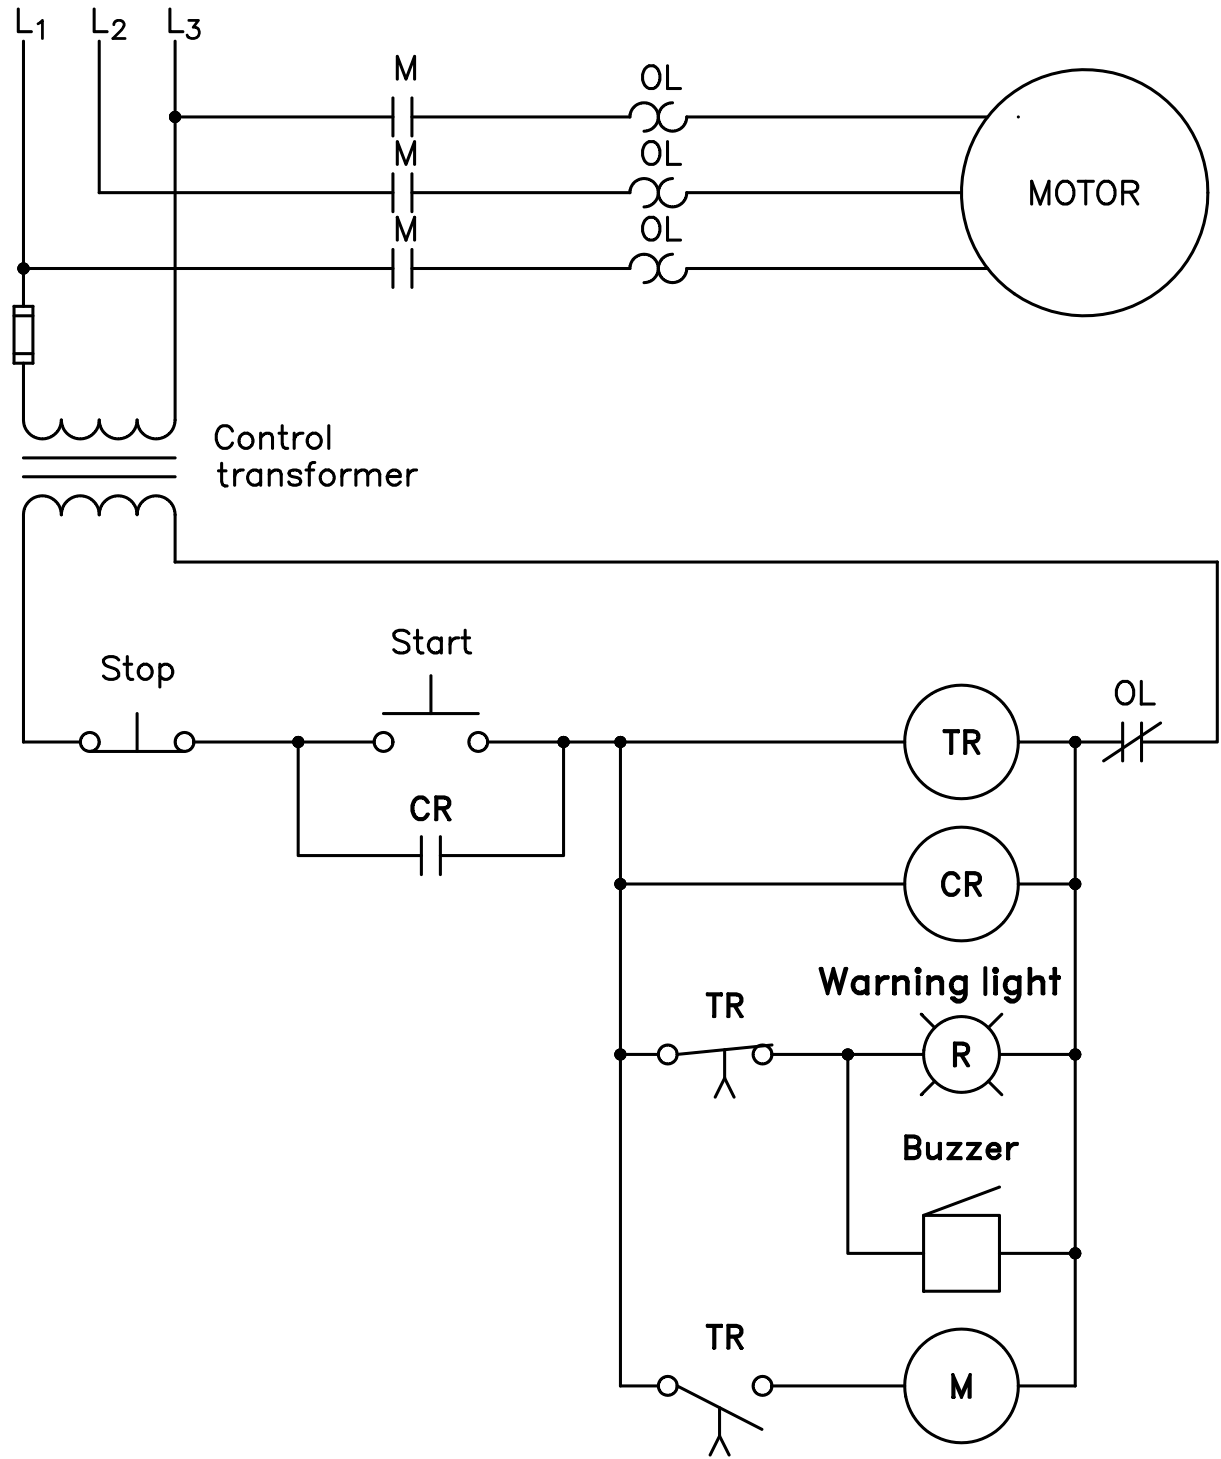

Figure 34-4 Adding a control relay.
contain instantaneous contacts. If this is the case, a control relay can be added to supply the needed instantaneous contact by connecting the coil of the control relay in parallel with the coil of TR timer (Figure 34-4).
1. It will be assumed that the timer in this circuit is the electronic type. Therefore, it will be assumed that a control relay will be used to provide the normally open holding contacts. Assuming the use of an electronic on-delay timer and an 8-pin control relay, place pin numbers beside the components of the timer and control relay shown in Figure 34-4. Circle the numbers to distinguish them from wire numbers.
2. Place wire numbers beside the components in Figure 34-4.
5. Refer to the circuit shown in Figure 34-4. Assume the owner decides to change the logic of the circuit as follows:
Amend the circuit in Figure 34-4 to meet the requirement.